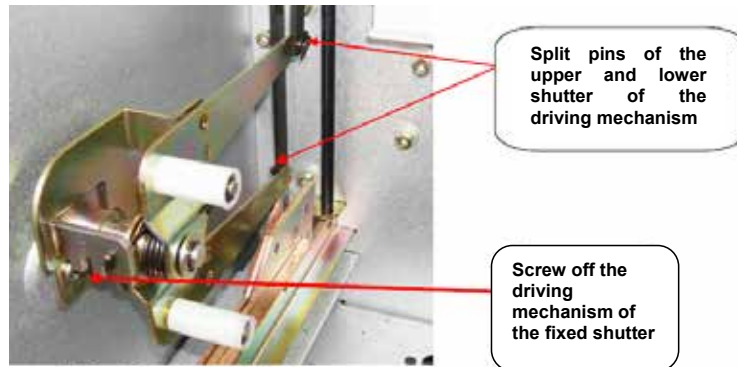

Figure 7.3: Driving mechanism of the shutter
- Remove the split pins of the driving mechanism of the shutters and connection bar (see figure 7.3)